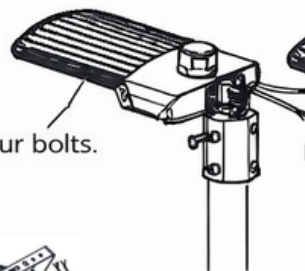

Figure 11
3. Place the bracket into the pole and lock the four bolts. (Figure 11 and 12)
Notice: Adjustable angle: 0-90° (Figure 11)